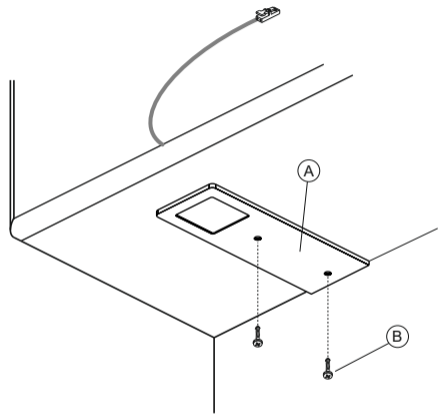

Fig 1
- Fix the screws (B) supplied in the holes of the unit (A) as indicated in Fig. 1,2.
- Connect the spotlights to the adaptor and using the extensions provided in the pack (D) following the wiring diagram 4.
- Connect the feeder plug (E) to an AC outlet 230V 50/60Hz.